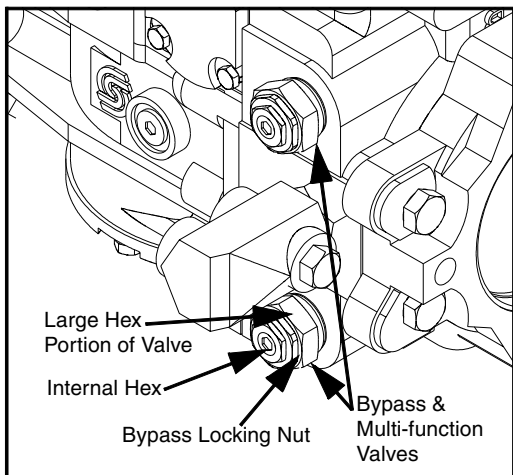

Figure 48. Travel Pump Bypass (400/500 Series)
- 1) Loosen bypass locking nut with 1 1/16" wrench (middle hex nut on bypass/multi-function valve). (Figure 48)
- 11) Close the travel pump bypass valves by rotating clockwise until snug against seat. (Figure 48)